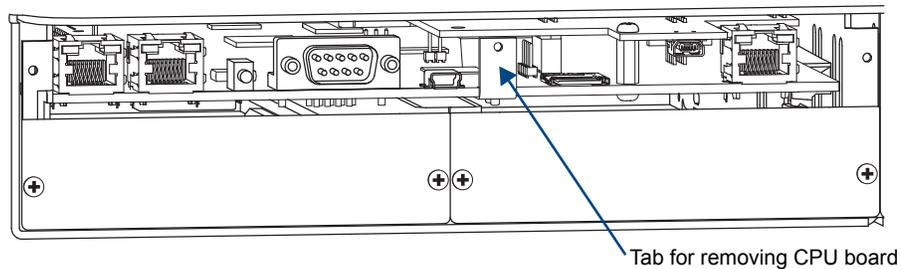

FIG. 136 Use tab to pull CPU board straight out
- Use the tab indicated in FIG. 136 to pull the CPU board straight out of the enclosure.